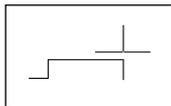

Figure 4-10: Drawing with direct distance entry enables you to specify coordinates by typing in a length after you move the pointer in the desired direction.
6. Move the mouse horizontally to the right and then type 2 ↵. Your drawing should look like Figure 4-10.